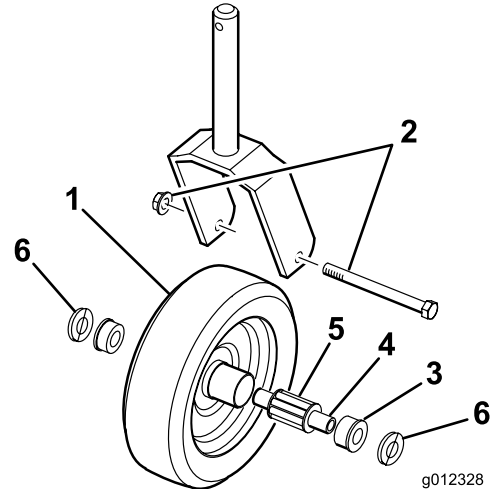

Figure 26
1. Remove the locknut from the capscrew holding the castor wheel assembly between the castor fork (Figure 26). Grasp the castor wheel and slide the capscrew out of the fork.
2. Pull the spanner bushing out of the wheel hub (Figure 26).
3. Remove the bushing from the wheel hub and allow the bearing to fall out (Figure 26). Remove the bushing from the opposite side of the wheel hub.
6. Carefully slide the spanner through the bushings and the wheel hub (Figure 26).